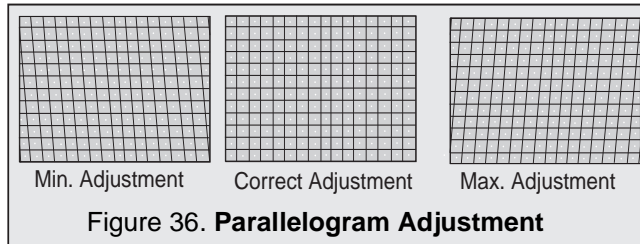

Figure 36. Parallelogram Adjustment
1. Enter Serviceman Mode, select "PARA" and adjust so that the lines at right and left are vertical like solid line. (See Fig. 36)